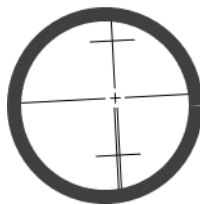

Figure 7: Cross-
- Cross-hairs that don't quite look right, Figure 7